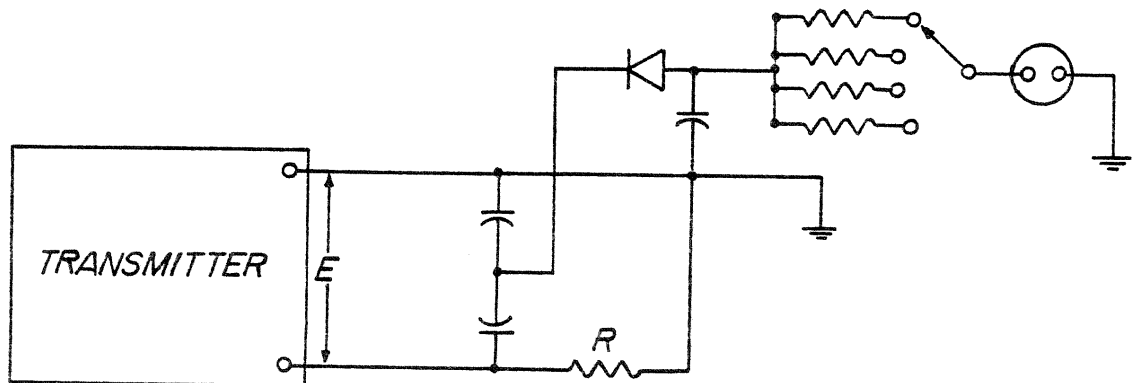

Figure 2-1
- a. The method of power determination used in the model 6140 RF Wattmeter is shown by the expression;  $W = E^2/R$ , where  $E$  is the voltage across the resistor  $R$ , and  $W$  is power in watts. Figure 2-1 illustrates the  $E^2/R$  configuration used in this wattmeter. RF energy flows from the transmitter through the resistor  $R$ , producing a voltage drop  $E$ , across the resistor which is detected by the voltmeter. The resistors in series with the voltmeter provide calibration for the four power ranges of the instrument.